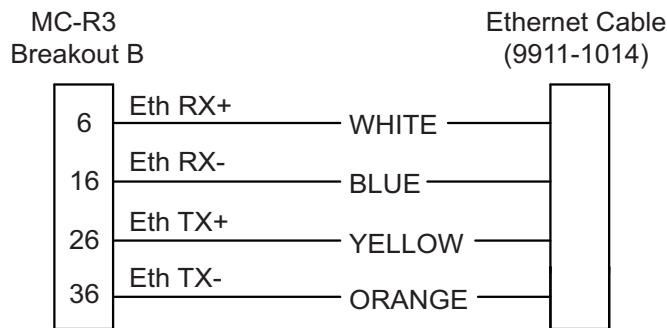

Figure 9. Ethernet to MC-R3 Breakout B Cable Wiring Diagram
6. Install the wires according to the colors noted in the wiring diagram (Figure 9). Slide the wires/contacts into the connector until they lock in place.